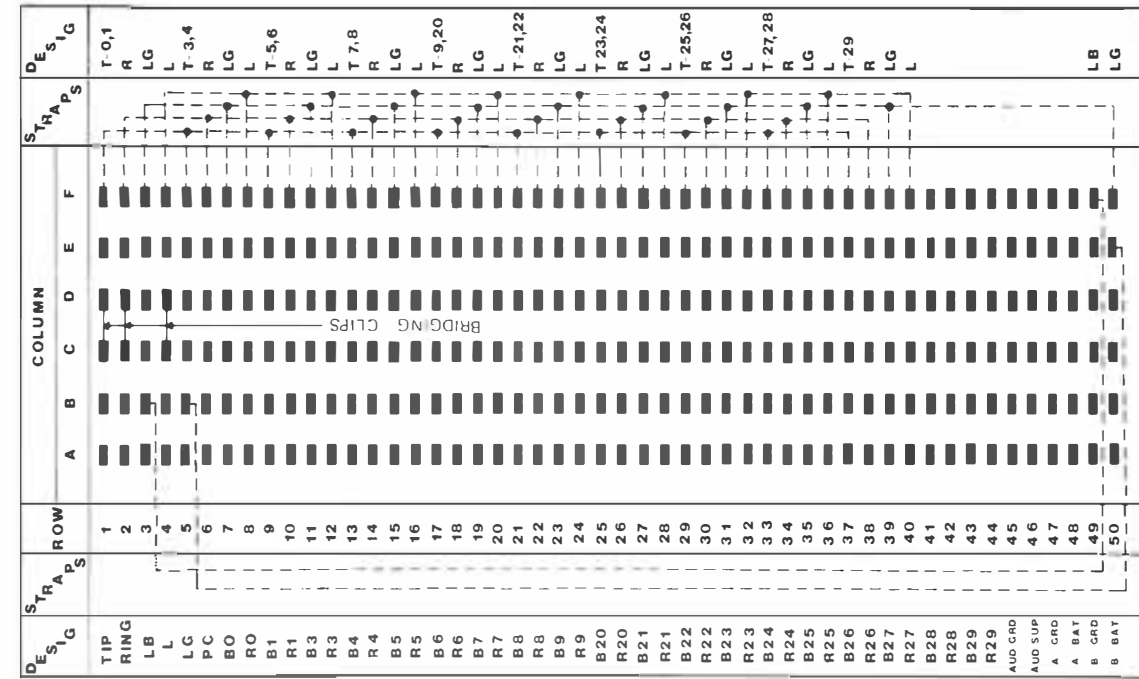

Fig. 3 — Suggested Arrangement of A25B Connector Cable, Jumpers and 66B3-50 Connecting Block.
3.04 The arrangement shown in Figure 3 can be used by the installer to connect a KC-19 to a 66B3-50 terminal block. This wiring method utilizes the standard arrangement of an A25B connector cable. Strapped as shown, the terminal block will provide 19 terminations for T, R, LG, L, B( ) and R( ). All power connections are at the bottom of the first block.